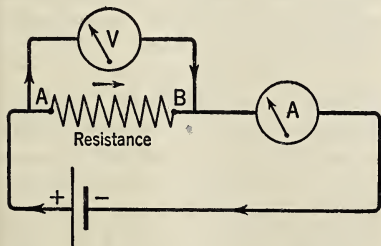

FIG. 681. The voltmeter-ammeter method of finding resistance.
1. *Voltmeter-ammeter method.* Look at Fig. 681. We wish to measure the resistance of the conductor AB . We connect an ammeter *in series* with the resistance and a voltaic cell and find the number of amperes (I) which flow through the resistance. A voltmeter connected *in parallel* across the ends of the conductor enables us to find the potential difference (P.D.) in volts. Then, by Ohm's law,